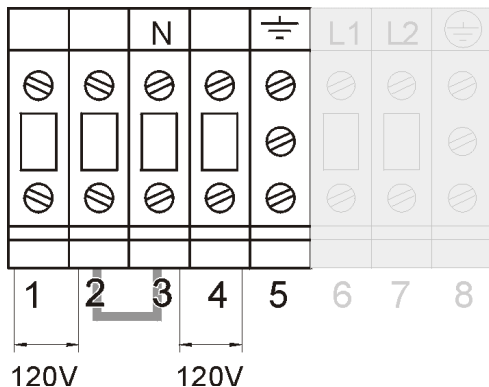

Figure 13. LP 5/6/8/10-11U:
2. Connect the load wires between the terminals 1 (L1) and 2 (N) (120V), and between the terminals 3 (N) and 4 (L2) (120V). Connect the ground wire to terminal 5. Ground connection is essential! Do not remove the link between terminals 2 and 3. See figure 13.